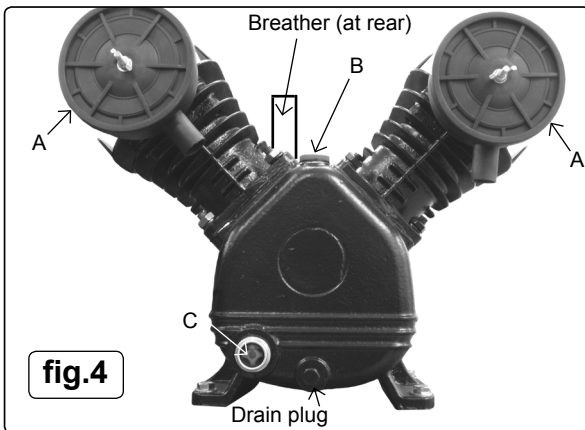

fig.4
- 3.7. Screw the back half of a filter unit into the port openings in each head as shown in (fig.4.A). Place a filter cover over each threaded rod protruding from the back half of the filter and secure each with a wing nut. Refer also to (fig.7).
a) Replace the lubricating oil. For oil specifications see 5.7. Remove the oil filler plug (see fig.4.B) then unscrew oil drain plug (see fig.4) and drain the oil into a container. Drain when the compressor is hot so that oil drains rapidly and completely. Incline compressor to ensure complete drainage.